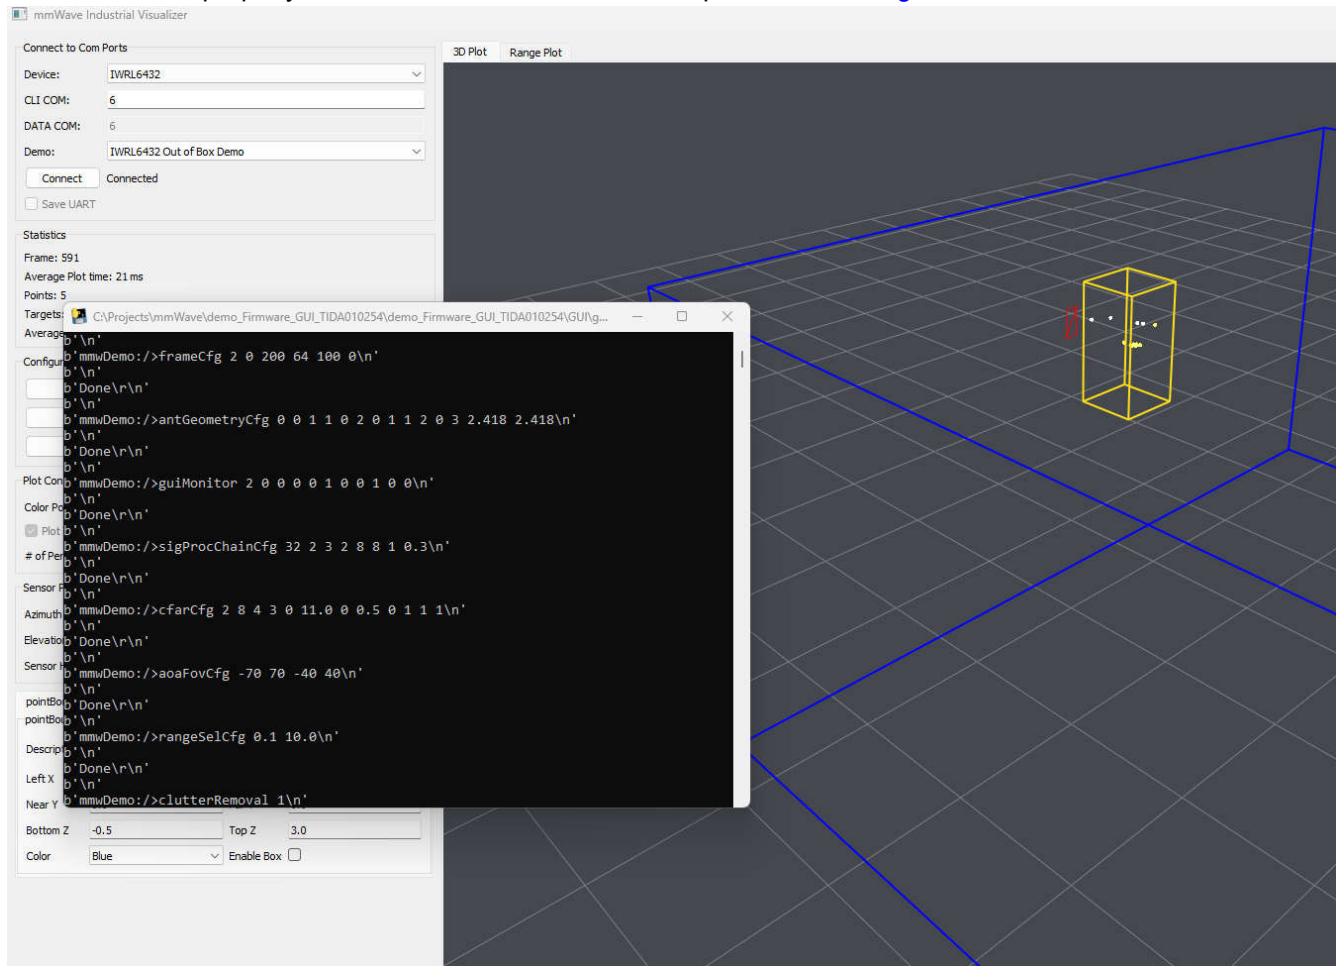

Figure 3-10. MmWave Industrial 3D Visualizer Output
7. If this works properly, then the console and the GUI outputs similar to Figure 3-10.